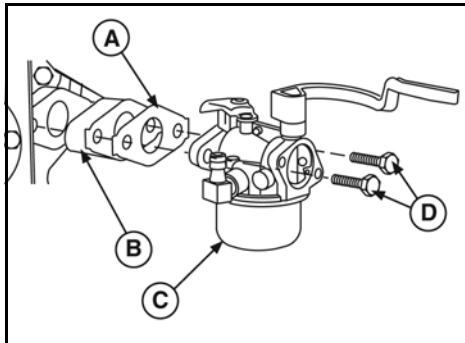

Figure 34
- Place new gasket (A, Figure 34) between adapter (B) and carburetor (C).
- Position carburetor on control bracket and install screws or nuts (D). Torque to value listed in Section 12 - Engine Specifications.